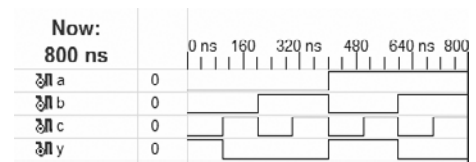

FIGURE A.1 Simulation waveforms
A.1.2.1 Simulation. Figure A.1 shows waveforms from a ModelSim simulation of the previous `sillyfunction` module demonstrating that the module works correctly. *Y* is true when *A*, *B*, and *C* are 000, 100, or 101, as specified by the Boolean equation.